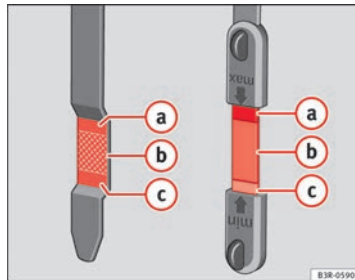

Fig. 180 Markings on oil dipstick
- Then pull it out once more and check the oil level ⇒ Fig. 180. If the oil level is too low, add more engine oil ⇒ page 238.